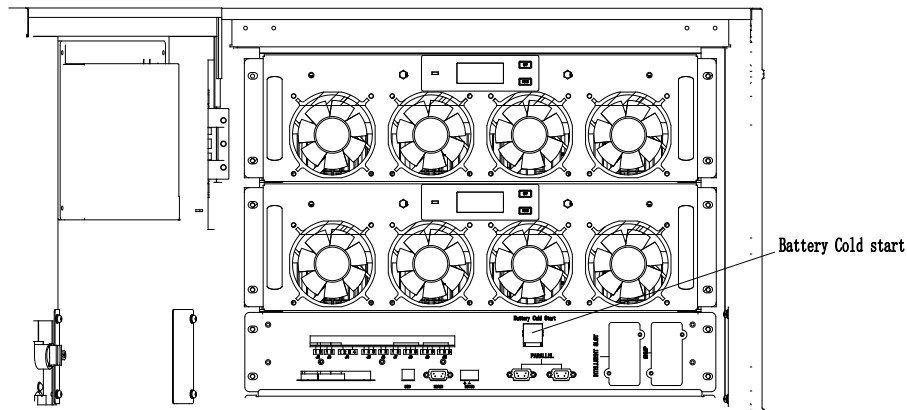

Figure4-1 The position of the battery cold start button
- 2) Press the red button for the battery cold start (as shown in Figure4-1).The system is then powered by the battery.